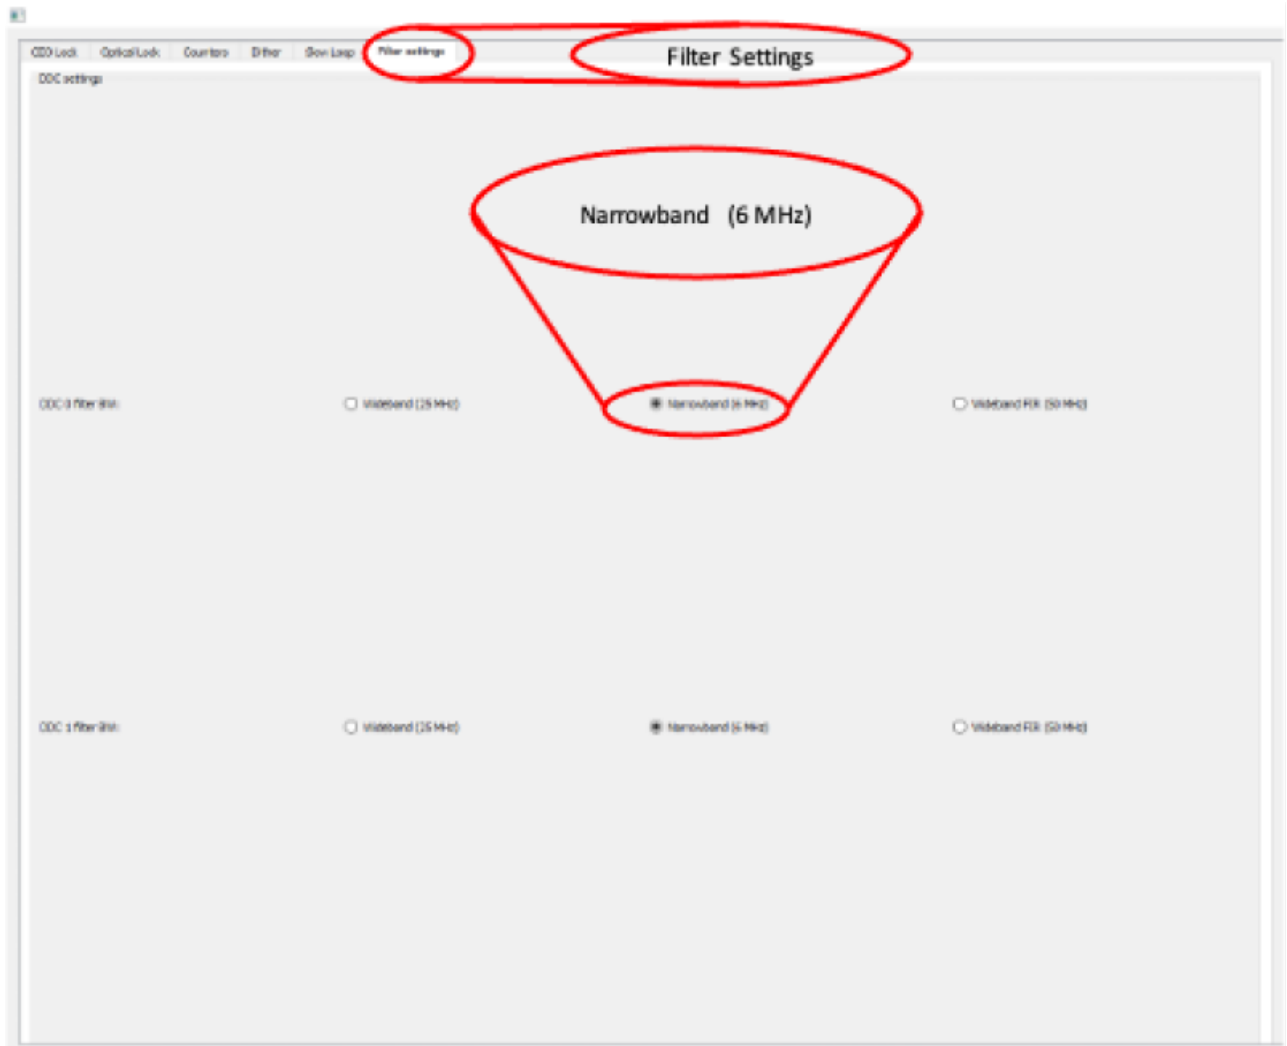

Fig. 3: Set Loop Filter Bandwidth
4. Navigate to the Filter Settings tab and select "Narrowband (6MHz)" for both DDC0 and DDC1 (figure 3).